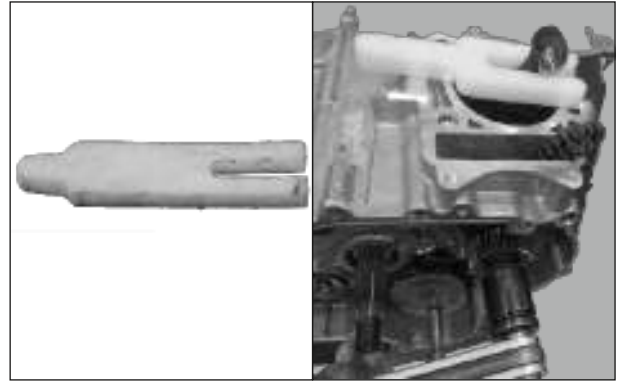

Fig. 1.11
- Hold the connecting rod with the connecting rod stopper as shown in the figure.(Fig. 1.11)